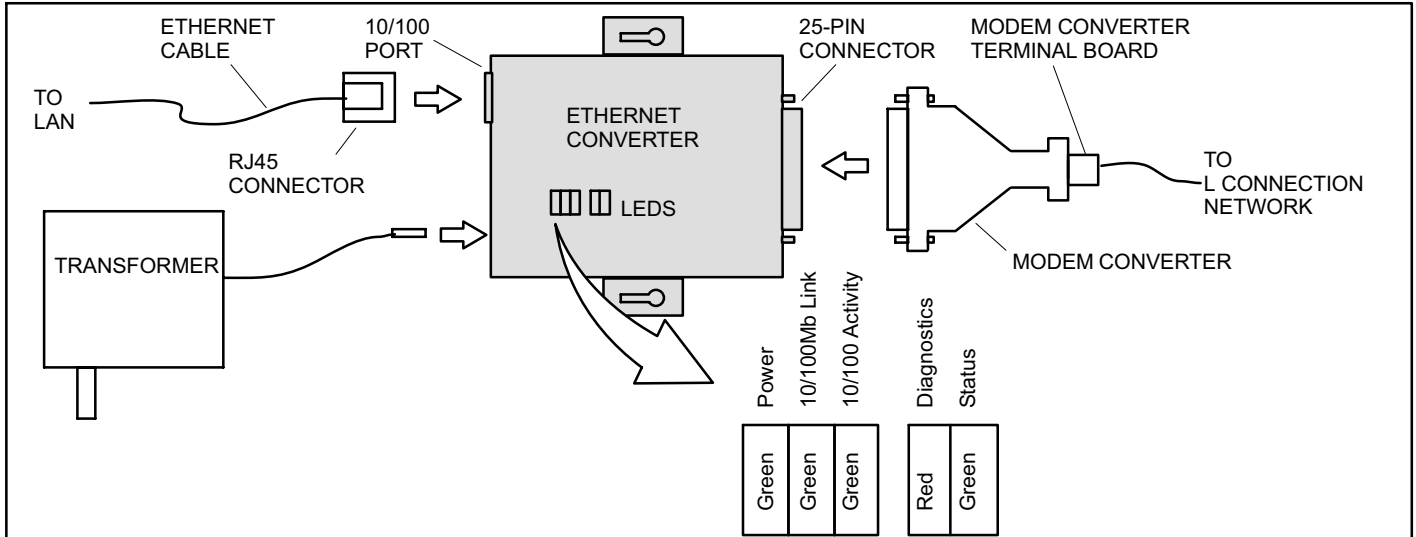

Figure 1. Ethernet Converter Kit
The Ethernet Converter Kit is required to interface between the L Connection® network and an ethernet local area network (LAN). This allows L Connection® software to access L Connection® products through an ethernet port instead of connecting directly or through a modem. See figure 1.
The red Diagnostic LED will stop flashing and the green Status LED will be steady ON if the converter has acquired an IP address on the network (see figure 1).
2. Connect the modem converter to the ethernet converter. Connect wires from the L Connection daisy chain to the modem converter terminal board (+ wire to + terminal and negative wire to negative terminal). See figure 1. Connect the modem converter to the NCP or to the last controller on the daisy chain. The shorter distance is recommended.